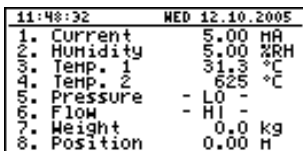

Fig. 6.4. "Channels list" mode (values)
- "Channels list" mode (Fig. 6.4, 6.5) enables the measurement results for all active measurement channels to be viewed in numeric or graphic (bar) form.